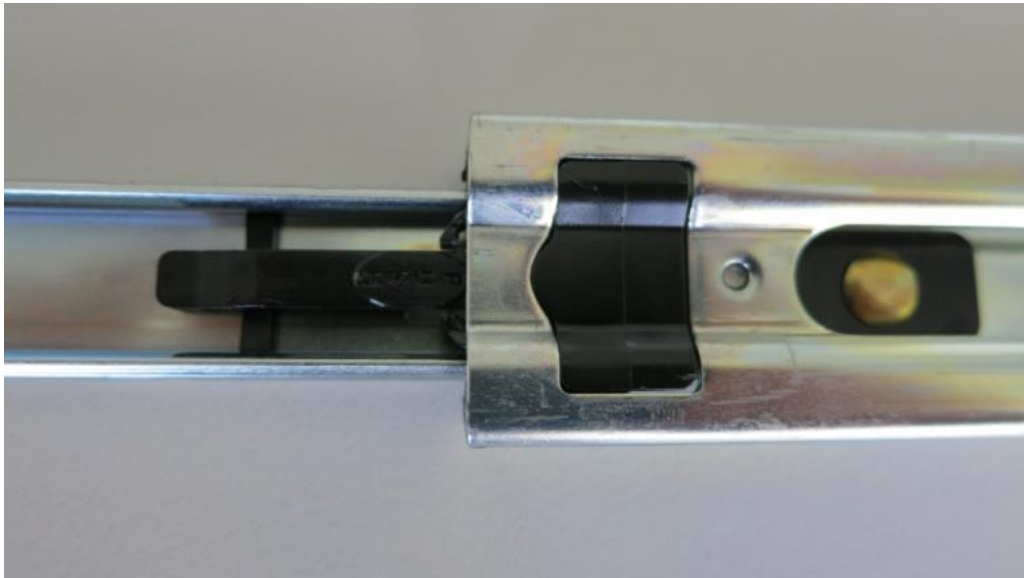

Figure 149 – Separate Rack Slides
2. Refer to Figure 149. Separate the slide rail assembly by pressing the black plastic clips in the slide rails to remove the inner section of the rail.